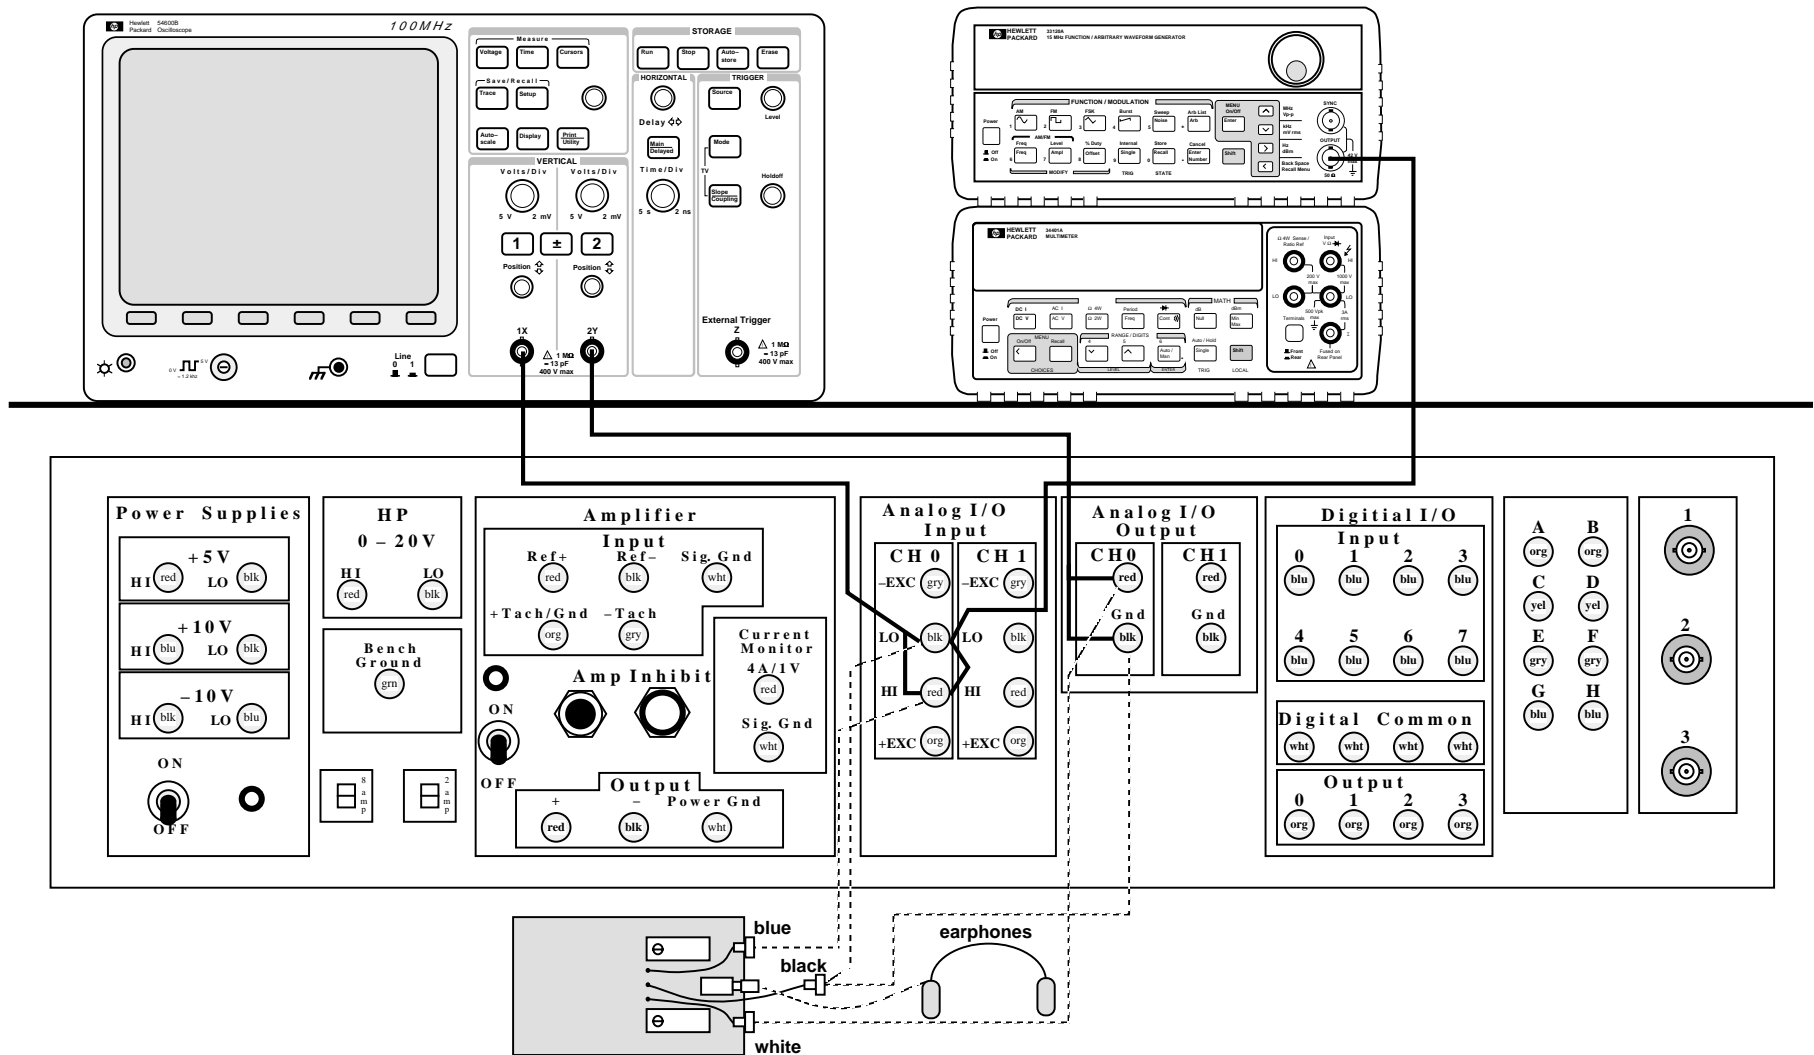

Figure 1. Equipment layout and connections for waveform reconstruction experiment.
- (c) Make sure the power to the patch panel is off and then wire the system as shown in Fig. 1.